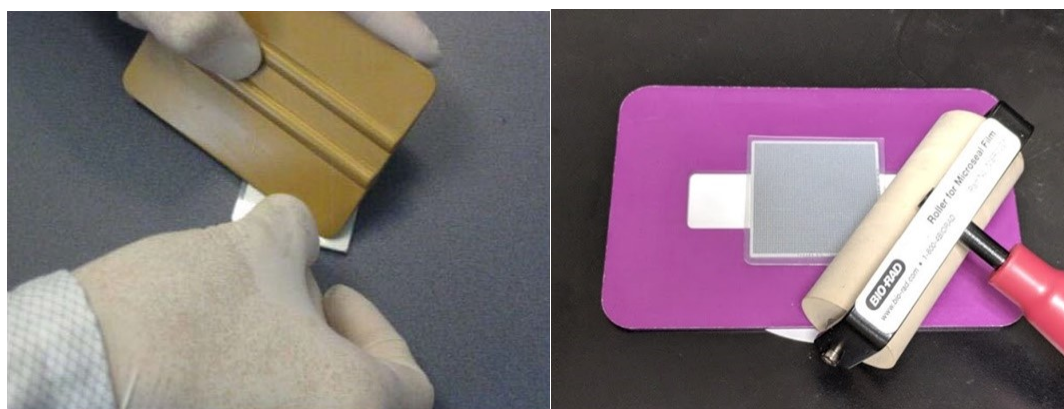

Figure 10. Sealing the blotted chip. Seal the blotted chip using (Left) a film applicator or (Right) a film sealing roller.
- Seal the blotted chip with the film using a film applicator (Figure 10, below).
- d. At Step 13, remove the liner from only one side of the Optical Imaging film and apply the exposed sticky side of the imaging film to the chip, sealing carefully (similar to Figure 10, above).